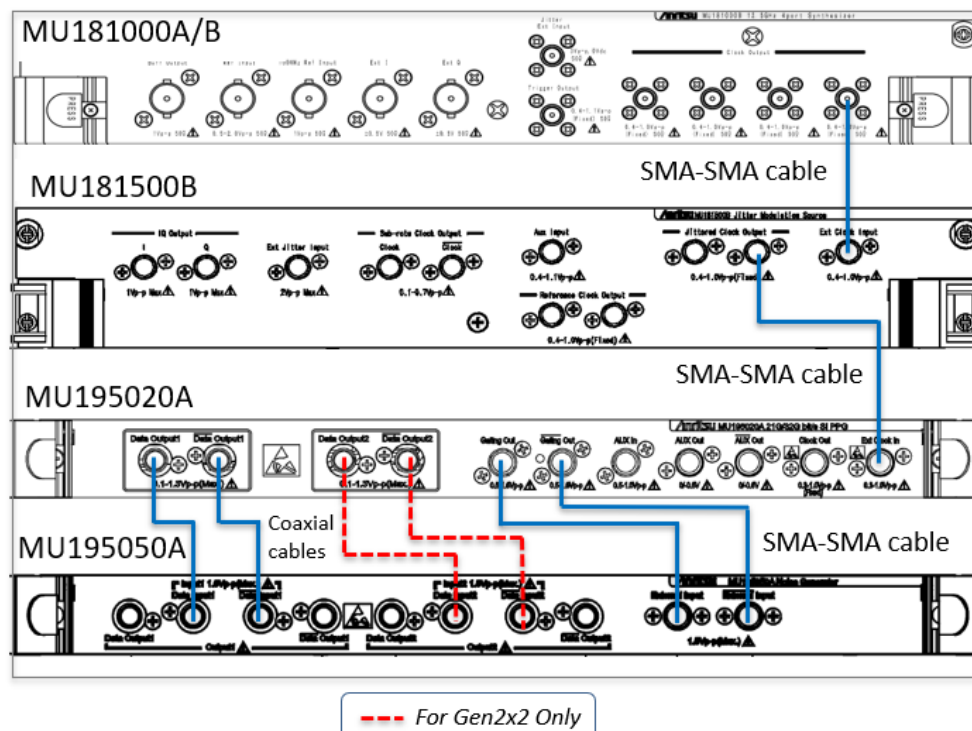

FIGURE 23. CONNECTION SETUP FOR MP1900A BERT GENERATOR SET MODULES FOR DUT TESTING
Figure 23 shows the connection setup between each module of the Anritsu MP1900A BERT Generator Set for DUT compliance testing.
1. Set up the BERT as shown in Figure 23.